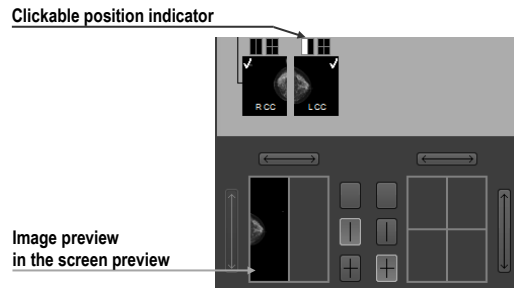

Figure 464 – Selecting an image to view using the rectangle indicator
- Click the desired rectangle in the screen position indicator representing the view in the working area (see Figure 464). The image is displayed in the appropriate view in the workspace on the left or right monitor.